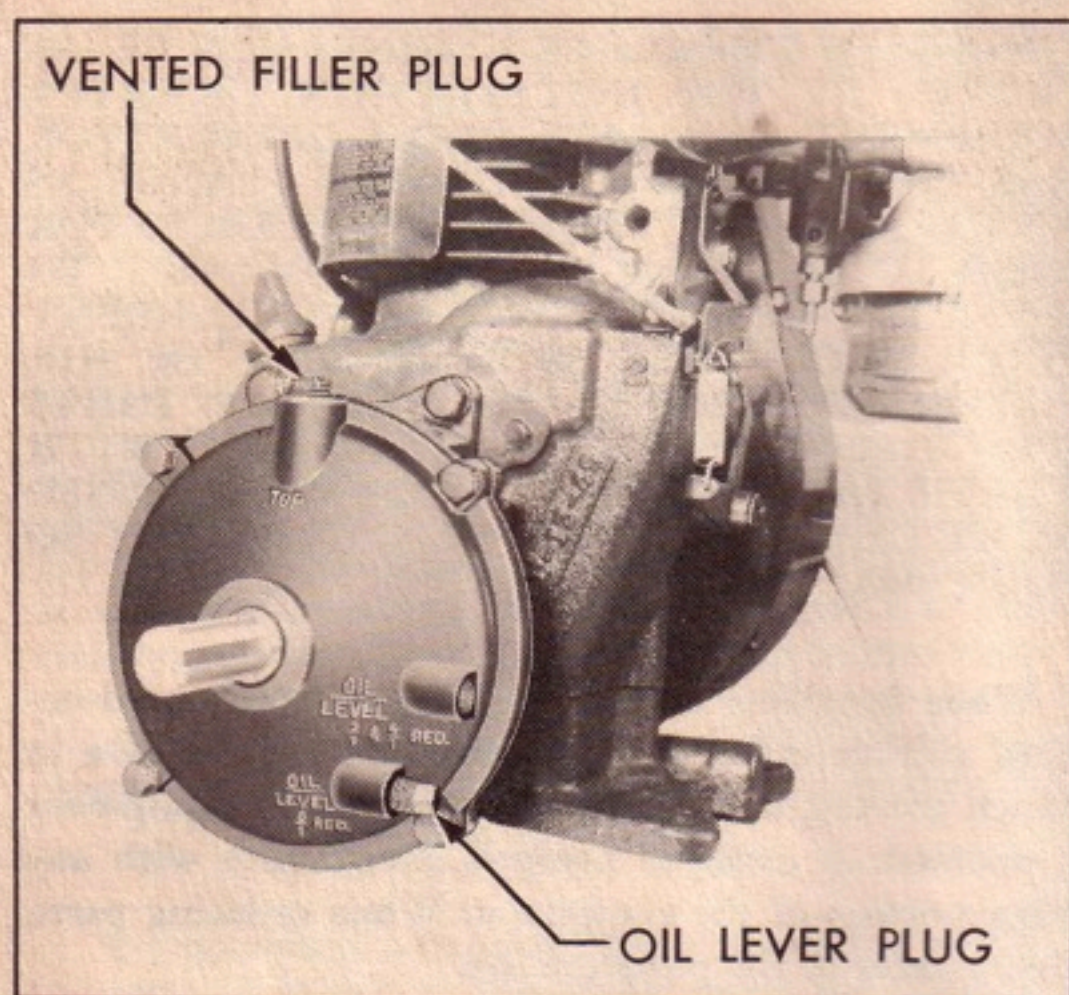

Figure B-2. Checking Oil Level in Reduction Gear Unit
(2) If the engine has a vertical crankshaft, the oil level is determined by looking into the filler plug hole. The oil level should be maintained at the mark indicated on the face of the end housing.
(3) Always use a premium-grade engine oil. At temperatures above freezing (32°F), use SAE No. 30 oil. At temperatures below freezing, use SAE No. 20 oil. When the temperature drops below zero, use SAE No. 10W oil.
(4) If the engine is equipped with a reduction gear unit, check the oil in the unit by removing the oil level plug in the gear case. (See figure B-2.) The correct oil level for the different gear reductions is indicated on the housing. If the oil is not up to correct level, remove the vented filler plug at the top of the housing and add engine oil, SAE No. 30, through the vented filler plug hole until the oil begins to run out of the oil level plug opening. Replace both plugs. Do not overfill the reduction gear unit, as this will cause overheating of the unit and result in loss of power.